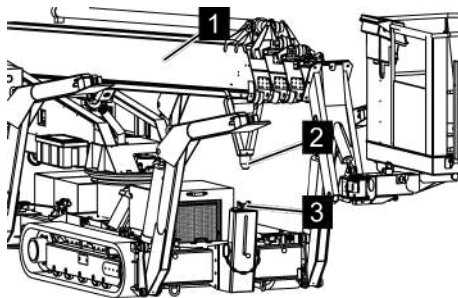

Fig. 98: Lifting the telescopic arm
- 1.** ➤ Lift the telescopic arm (Fig. 98/1) until the attachment centring (Fig. 98/2) is about 35 to 40 cm away from the telescopic arm attachment (Fig. 98/3).